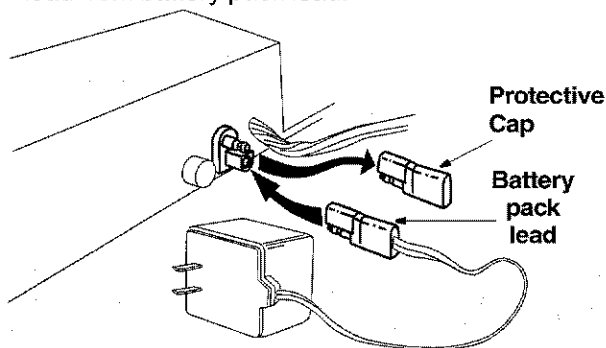

Figure 17
- Remove the protective cap from the end of the battery pack lead. *Always plug charger lead into battery pack lead first, and then insert battery charger plug into 120 volt standard household outlet.* See Figure 17. Follow this order of action every time you charge the battery.